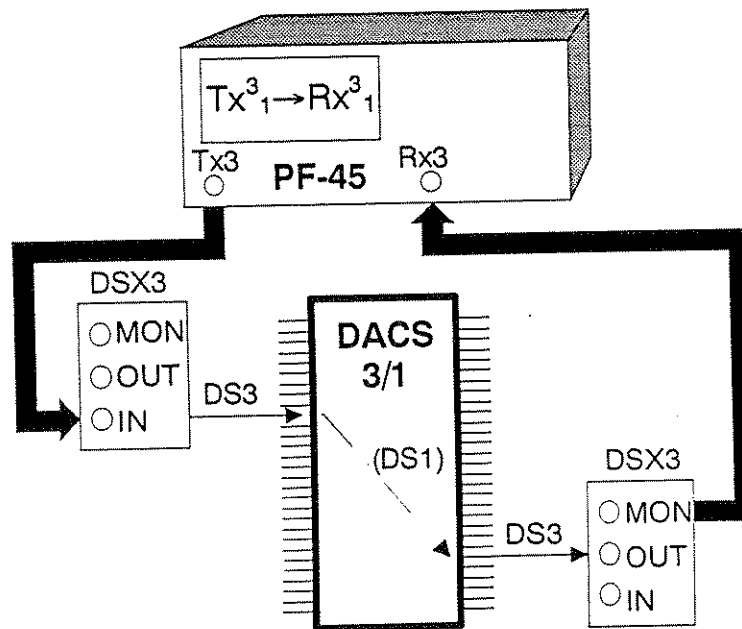

Figure 4-7: Tx31->Rx31 Mode
[Tx31->Rx31] mode (Fig 4-7), is used for portions of a system where the Tx and Rx DS1 test signal appearances are both at DS3. This is an appropriate test mode for DACS 3/1 (as shown) or back-to-back M13's.
1. - Connect the PF-45 DS3 receive jack [12] to the monitor jack of the outgoing DS3 at the DSX cross-connect panel with the appropriate cable, as shown in Figure 4-7.
- Connect the PF-45 DS3 transmit jack [11] to the DS3 input jack of the multiplexer at the DSX cross-connect panel with the appropriate cable, as shown in Figure 4-7.